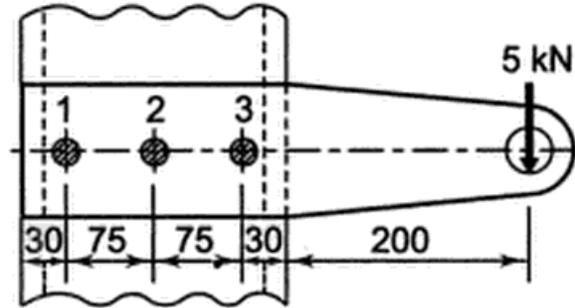

Figure.5b
- b) A steel plate subjected to a force of 5 kN and fixed to a channel by means of three identical bolts is shown in the Figure.5b. The bolts are made from plain carbon steel 45C8 (yield strength  $S_{yt}=380 \text{ N/mm}^2$ ) and the factor of safety is 3. Specify the size of the bolts. (All dimensions are in mm) 8 M